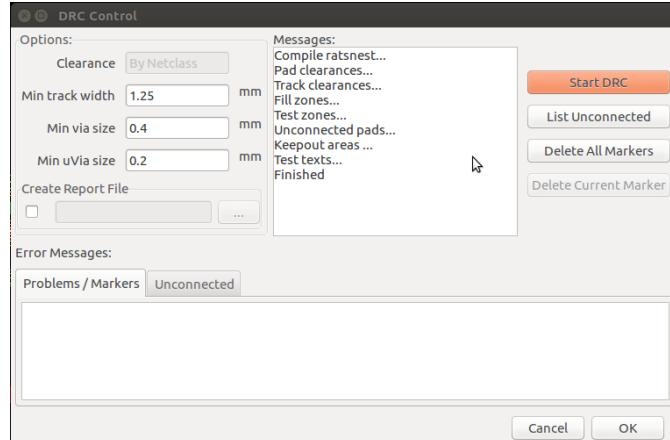

Figure 16.21: DRC Control Window
2. Click on Perform Design Rules check button from the top menu bar of Pcbnew. DRC Control Window will pop-up as shown in Fig. 16.21.
errors in the design present, there will not be any errors in the message window as shown in Fig. 16.21